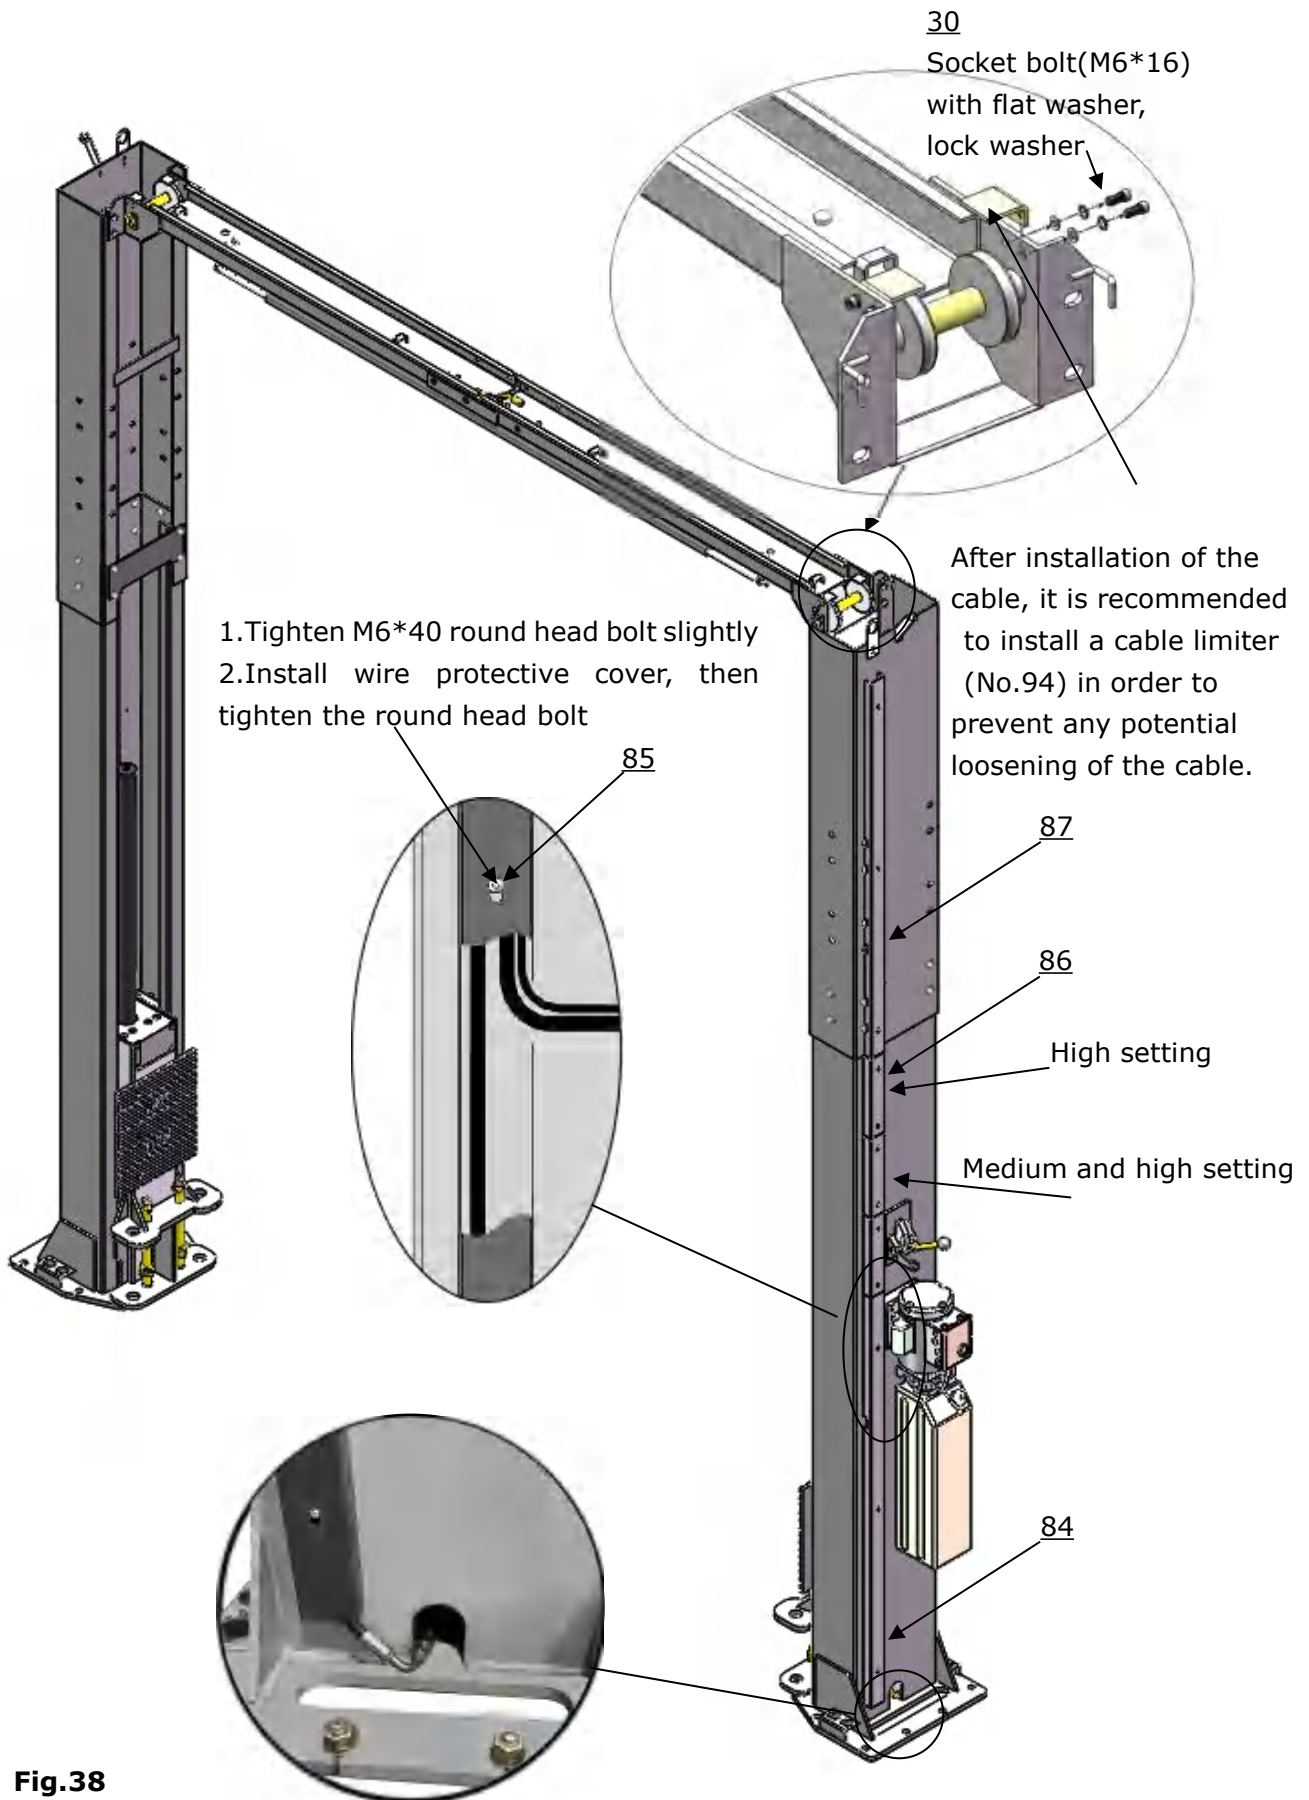

Fig.38
N. Install wire protective cover and sync cable limit plate. (See Fig.38)